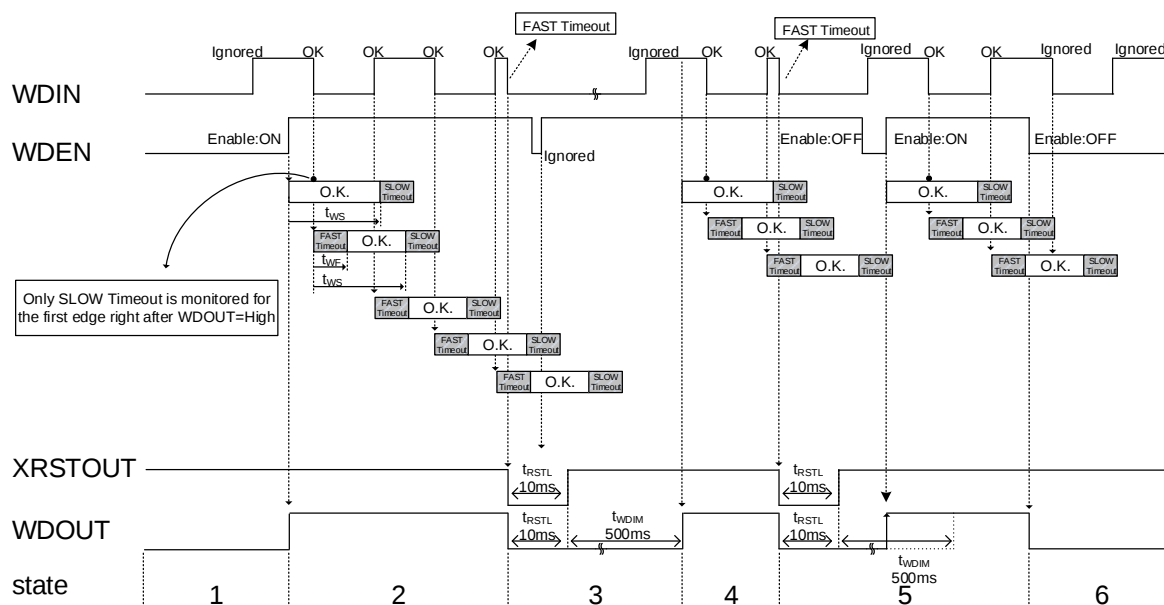
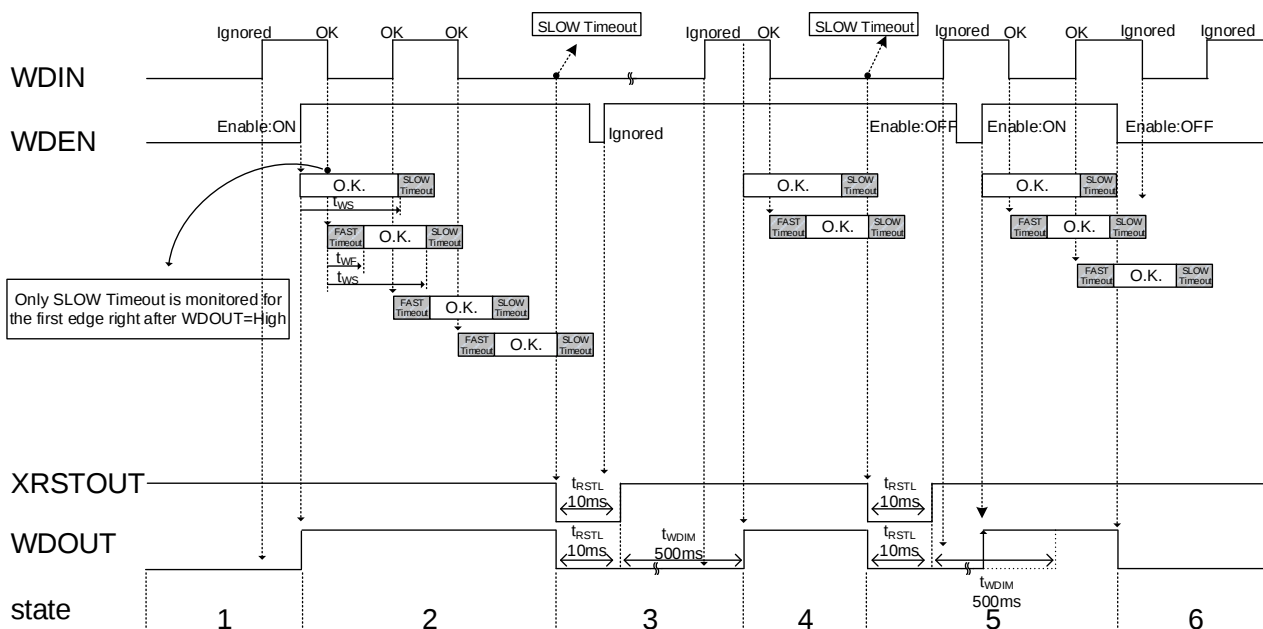

Figure 2. WDT FAST Timeout Detection
Figure 3. WDT SLOW Timeout Detection
Sequence for FAST Timeout and SLOW Timeout are shown in Figure 2 and Figure 3.
3. These time detection monitors the time until next edge and when it detects WDTIN edge within FAST Timeout (t_{WF}), XRSTOUT and WDTOUT becomes Low. XRSTOUT goes back to High after 10 ms (Typ) delay, while WDTOUT goes back to High after t_{WDM} (500 ms: Typ) in addition to t_{RSTL} (10 ms: Typ) as long as WDTEN=High. t_{WDM} is implemented as a time for microprocessor to be reset normally and stabilized. If this time is unnecessary and WDT should be activated as soon as possible, WDTEN may be controlled like state 5 in the Figure 2.
5. When WDTOUT becomes High, WDT is activated again and operation resumes. Only SLOW Timeout detection works until the next first edge, and both SLOW Timeout and FAST Timeout starts at the first edge like state 1 in Figure 2.
6. If this time is unnecessary and WDT should be activated as soon as possible, WDTEN may be controlled like in Figure 2. t_{WDM} is canceled by toggling WDTEN like High->Low->High and WDT is activated immediately even during t_{WDM} . After WDT is enabled it works as same as state 2 in Figure 2.
If this time is unnecessary and WDT should be activated as soon as possible, WDEN may be controlled like state 5 in the Figure 3.
Only SLOW Timeout detection works until the next first edge, and both SLOW Timeout and FAST Timeout starts at the first edge like state 1 in Figure 3.
5. If this time is unnecessary and WDT should be activated as soon as possible, WDEN may be controlled like the Figure 3.
After WDT is enabled it works as same as state 2 in Figure3.